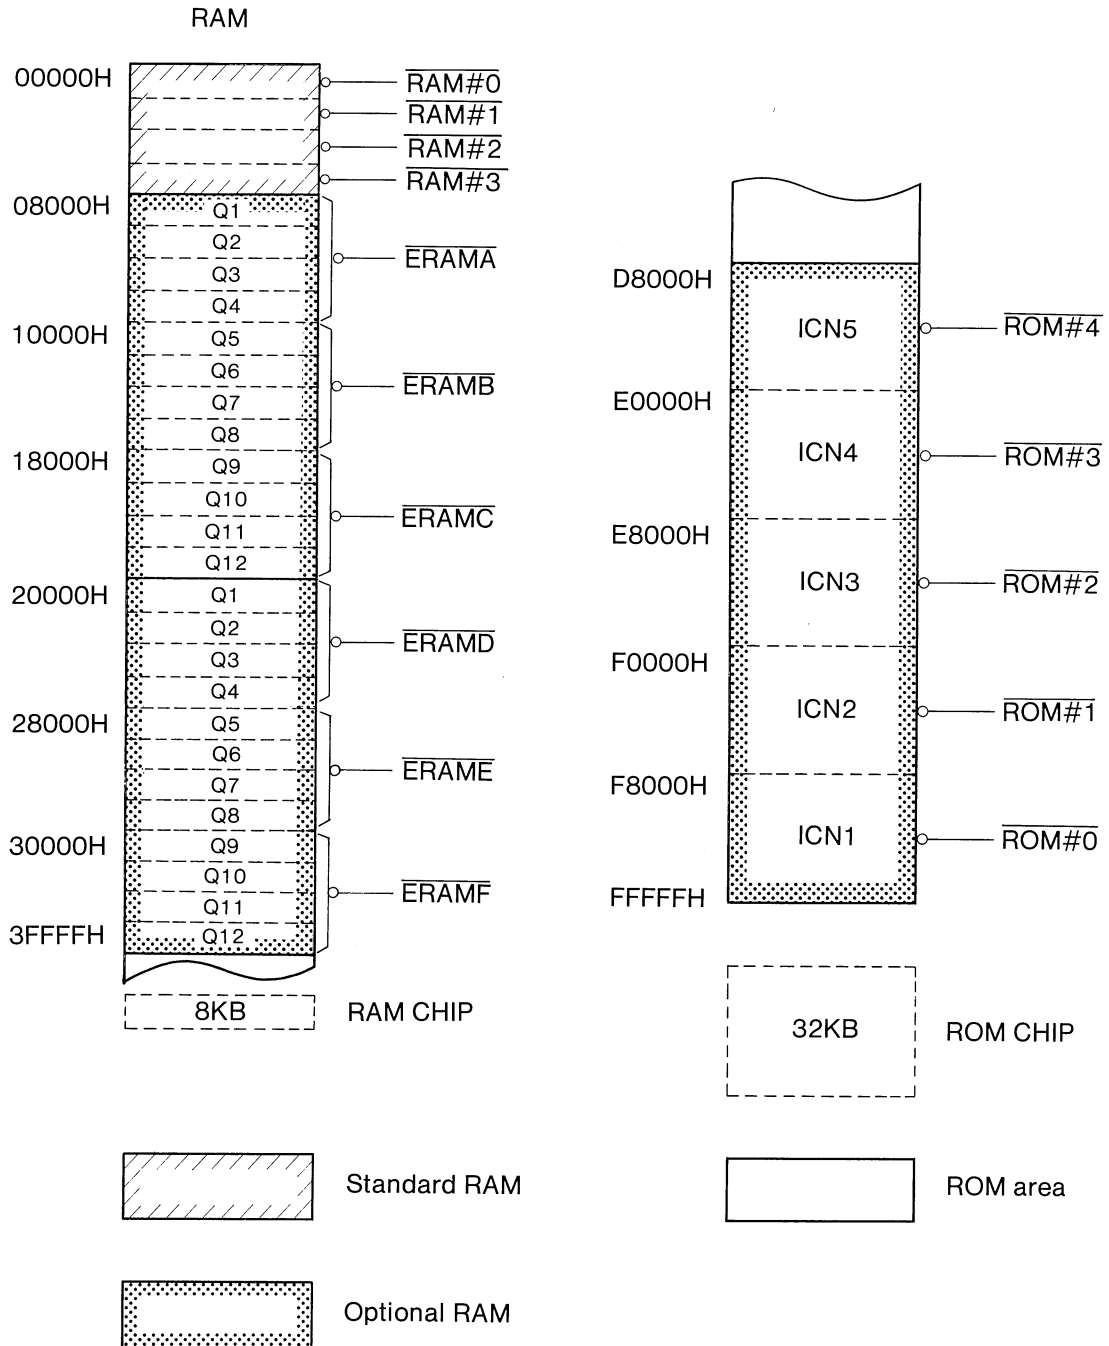

Figure 5-4. Memory Map
The memory map (Figure 5-4) shows the location on the board of the IC and the corresponding memory chip-select signal.
**Note:** See Figure 5-4 for the relationship between the address and the ROM and RAM chip selection signal.